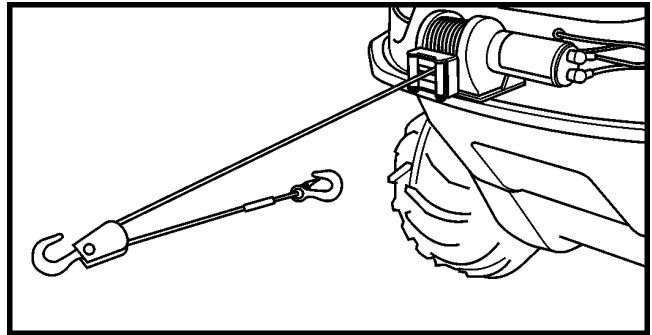

Figure 11-16 Double Line.
1. The winch is rated at 3,000 pounds (single-line) capacity. **DO NOT OVERLOAD. DO NOT ATTEMPT PROLONGED PULLS AT HEAVY LOADS. DO NOT MAINTAIN POWER TO THE WINCH IF THE MOTOR STALLS.** Overloads can damage the winch and/or the wire rope and create unsafe operating conditions. For heavy loads, we recommend the use of the optional pulley block and hook assembly (Warn Part No. 28881 or Superwinch Part No. 1503) to double line the wire rope (Figure 11-16). This reduces the load on the winch and the strain on the wire rope by approximately 50%.